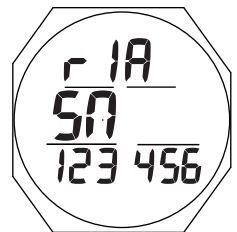

Fig. 59 - SERIAL NUMBER
**Serial Number**, information includes (Fig. 59):